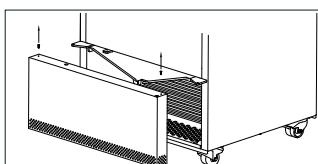
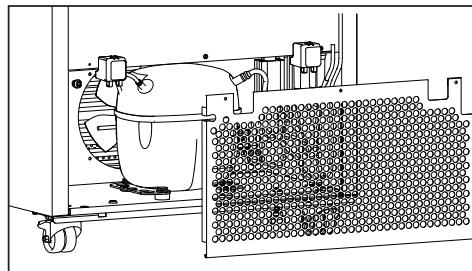

fig. 11
fig. 13
2. Remove the lower panel from beneath the door by loosening the two screws. Use a 2mm Hexagon key. See fig 11
The ventilation grille, the condenser, the compressor and the compressor compartment must also be kept free of dust and dirt. Clean it with a vacuum cleaner regularly. Remove the lower panel from beneath the door by loosening the two screws (see fig 11) Do the same on the back (see fig. 13)